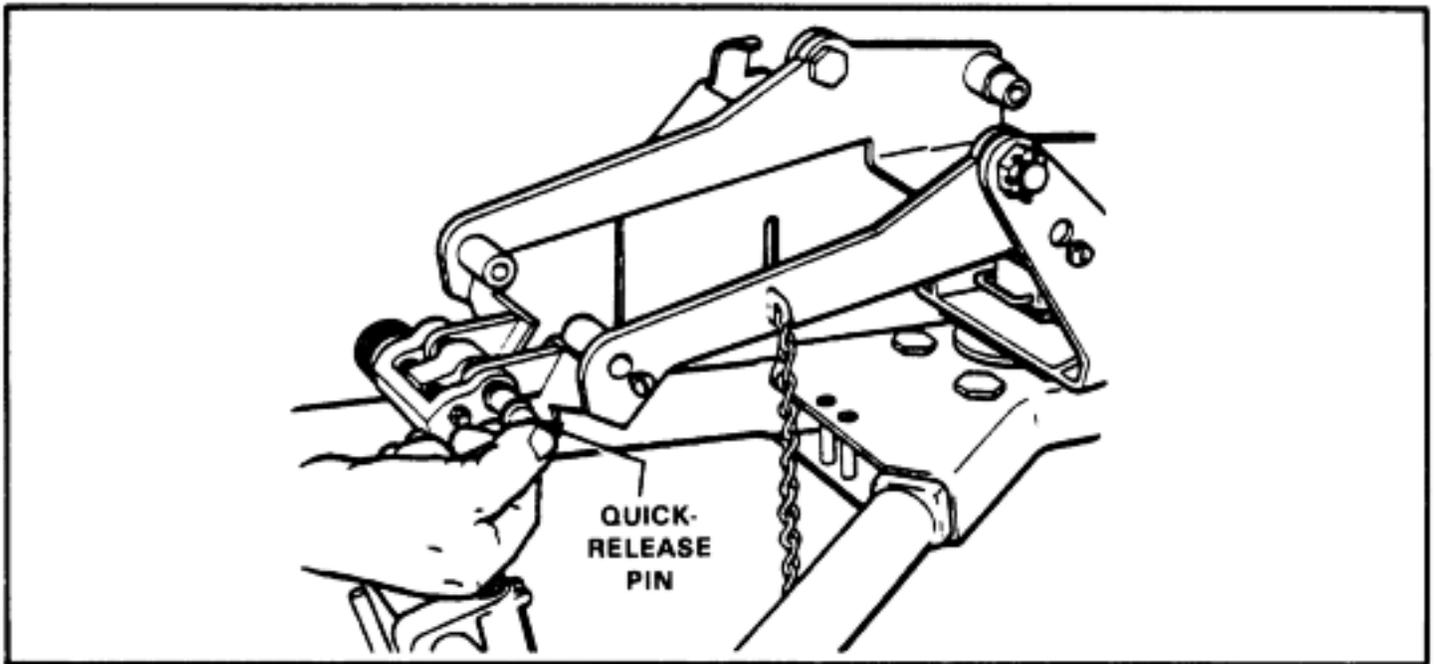

Figure 3-7. Quick release pin.
(5) Lock the elevating sleeve mechanism onto the center of the traversing bar.
(6) Insert the quick- release pin from the right (Figure 3-7).